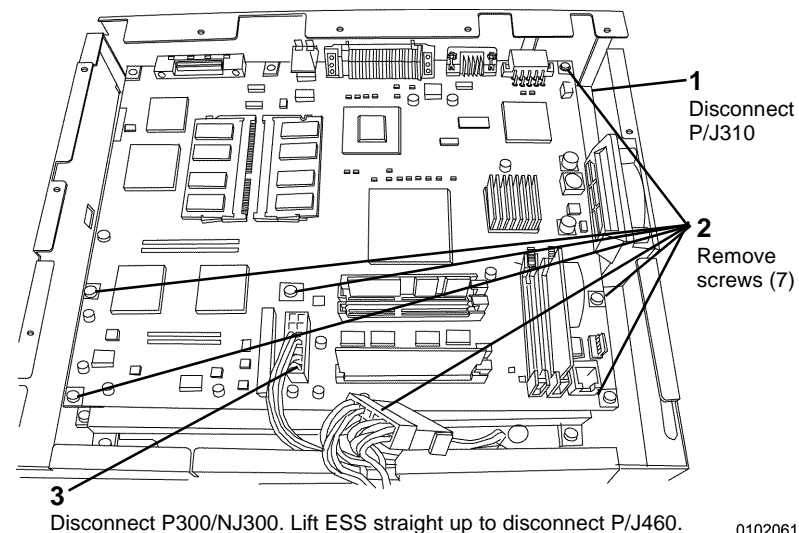

Figure 2 Removing the ESS PWB
6. Remove the ESS PWB (Figure 2).